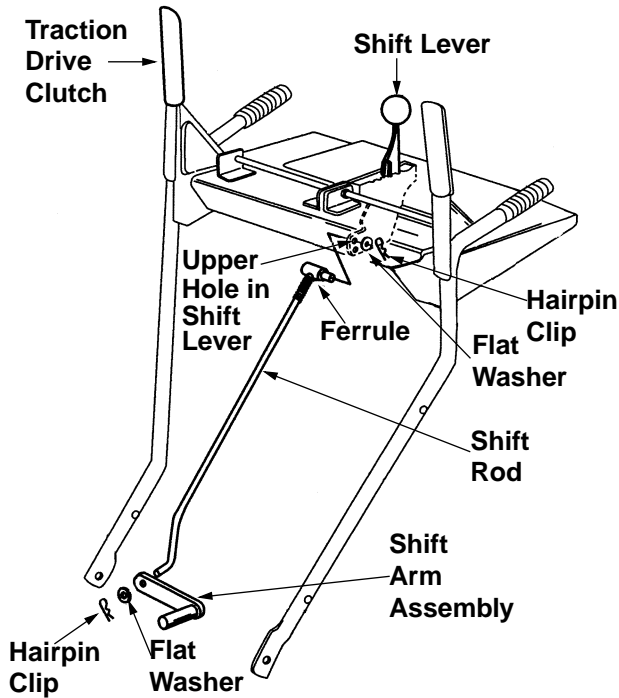

Figure 9
1. Place the shift lever (on the handle panel) in the sixth (6) speed position (all the way forward).
2. Place the bent end of the shift rod into the hole in the shift arm assembly. See figure 9. Secure with flat washer and hairpin clip.